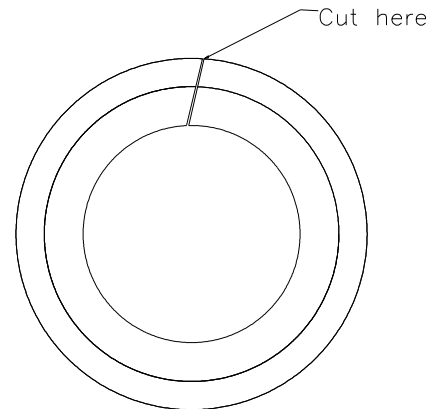

Figure 3
- 10.9.** Cut the grommet to prepare it for installation. Reference figure 3.
- 11.13. Cut the grommet supplied to prepare it for installation. Reference figure 3.